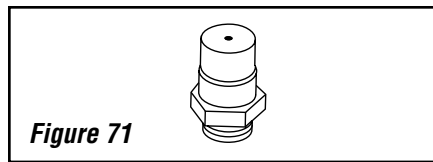

Figure 71
a. Remove the orifice from the manifold and replace it with the one provided in the kit. The following Table shows the orifice sizes for natural and propane models. **Figure 71** illustrates the orifice.